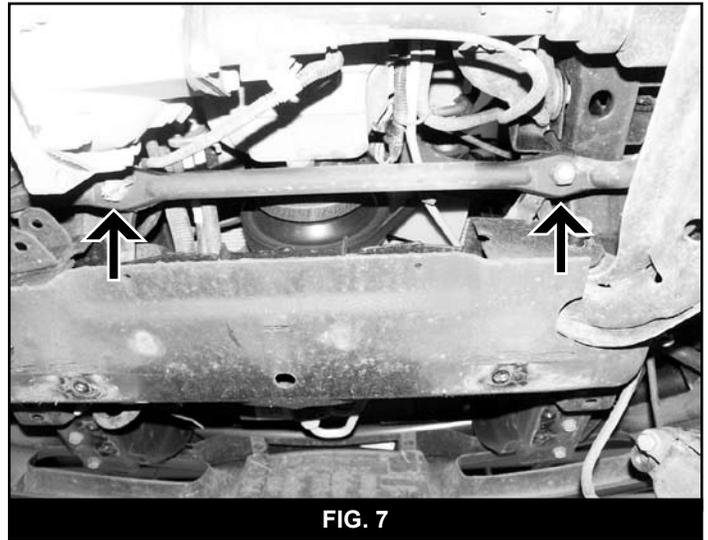

FIG. 7
29. Remove the OE steering relay rod by disconnecting the idler and pitman arm nuts and using a pickle fork to dislodge the relay rod. (Fig. 7)